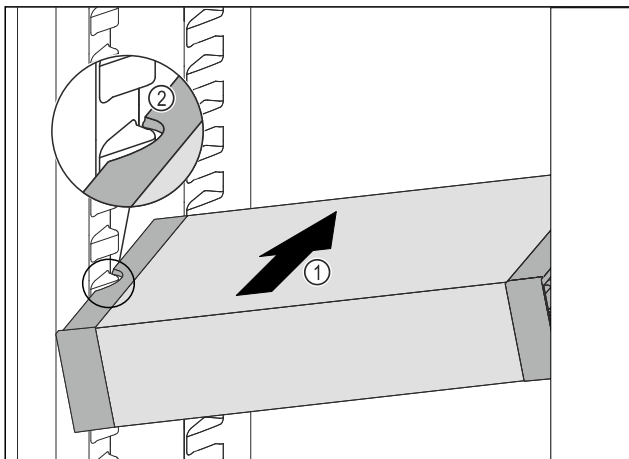

Fig. 176
- ▶ Insert the VarioSafe into the fridge section at an angle Fig. 176 (1) until the recesses in the side Fig. 176 (2) of the VarioSafe are at the level of the support rib in the fridge section.